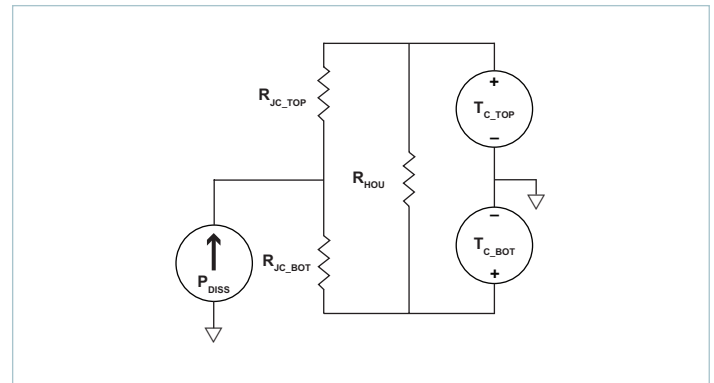
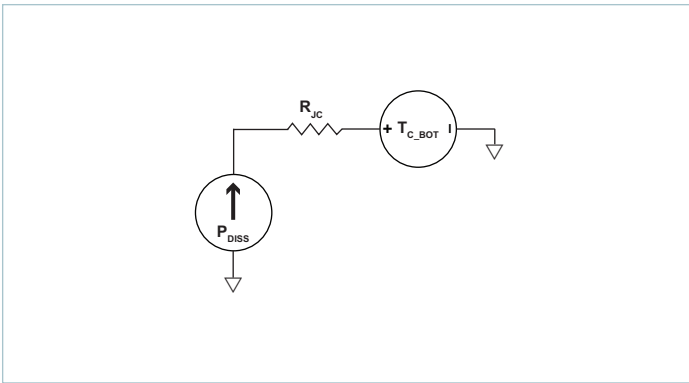

Figure 22 — Double sided cooling VIA thermal model
Figure 23 – Single-sided cooling VIA thermal model
The VIA™ package provides effective conduction cooling from either of the two module surfaces. Heat may be removed from the top surface, the bottom surface or both. The extent to which these two surfaces are cooled is a key component for determining the maximum power that can be processed by a VIA, as can be seen from specified thermal operating area in Figure 1. Since the VIA has a maximum internal temperature rating, it is necessary to estimate this internal temperature based on a system-level thermal solution. To this purpose, it is helpful to simplify the thermal solution into a roughly equivalent circuit where power dissipation is modeled as a current source, isothermal surface temperatures are represented as voltage sources and the thermal resistances are represented as resistors. Figure 22 shows the "thermal circuit" for the VIA module.
- Single side cooling: the model of Figure 22 can be simplified by calculating the parallel resistor network and using one simple thermal resistance number and the internal power dissipation curves; an example for bottom side cooling only is shown in Figure 23.